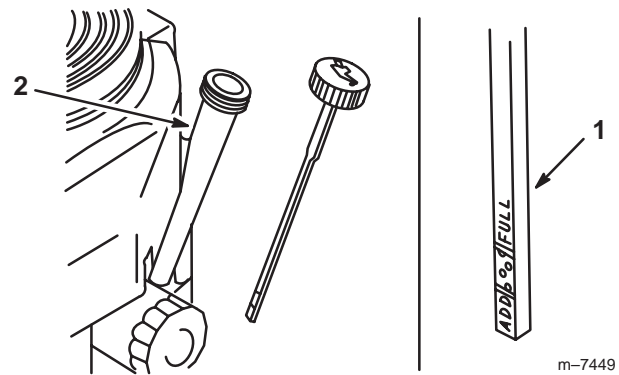

Figure 33
4. Clean around the oil dipstick (Fig. 33) so that dirt cannot fall into the filler hole and damage the engine.
5. Unscrew the oil dipstick and wipe the end clean (Fig. 33).
6. Slide the oil dipstick fully into the filler tube, but do not thread onto tube (Fig. 33).
8. Slowly pour approximately 80% of the specified oil (refer to Service Interval/Specification, page 29) into the filler cap (Fig. 33).